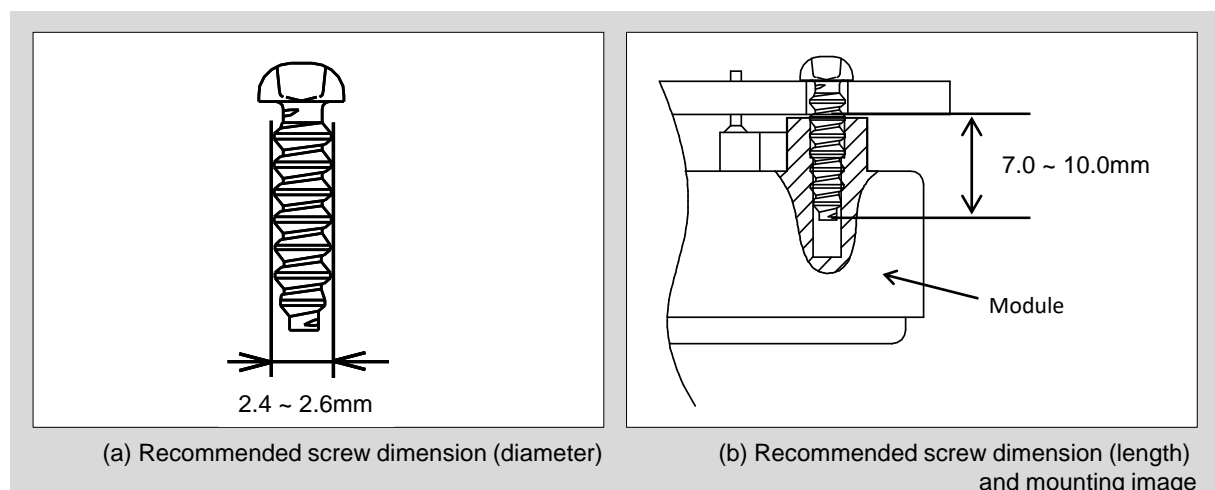

Figure 6. Recommended screw dimensions and mounting image
1. Use a self-tapping screw to fix the PCB to the module. As shown in Figure 6, use screws with a diameter of 2.4 to 2.6 mm and a length of 7.0 to 10.0 mm from the underside of the PCB. Table 3 shows the recommended screws.